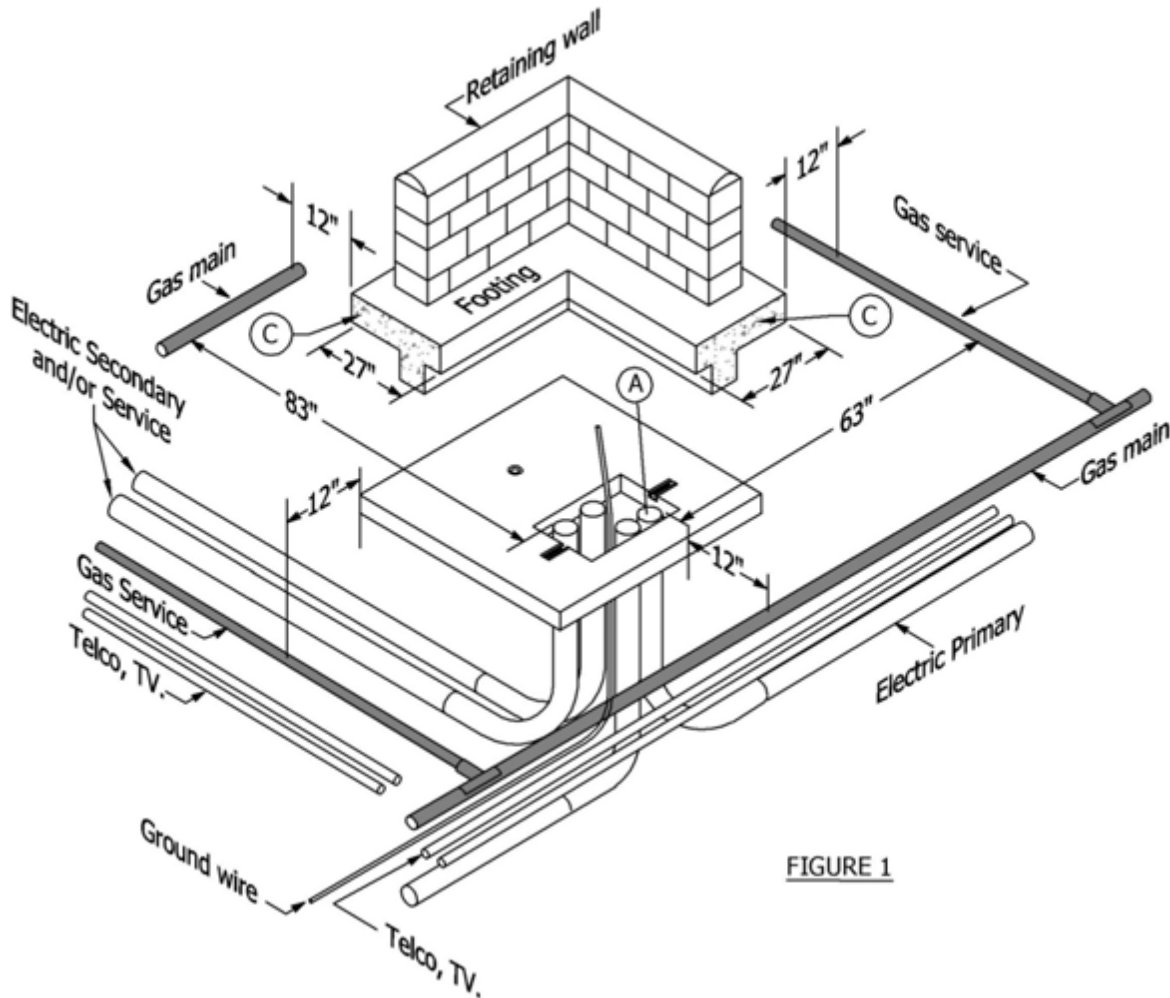

FIGURE 1
- Ⓒ If retaining wall is to be installed, maintain 12" horizontal separation from footing. Footing width in Figure 1 is based on 4'-0" wall height with 3 to 1 slope.